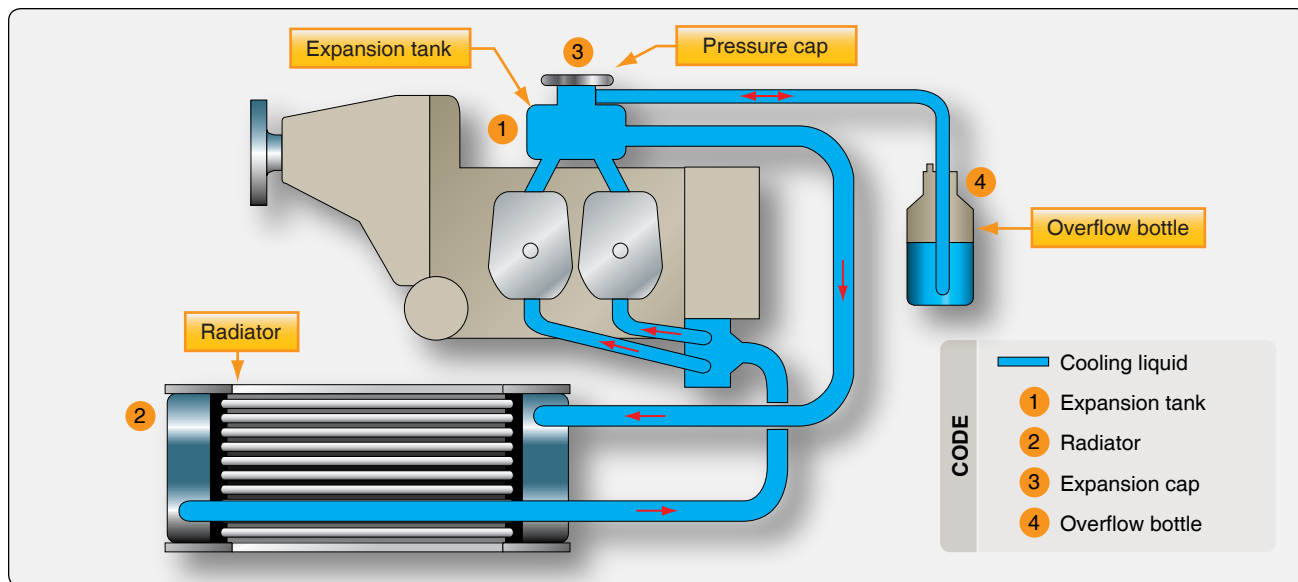
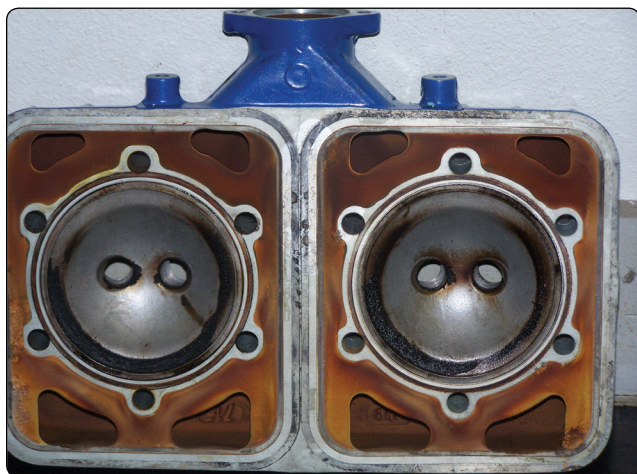

Figure 11-7. Rotax 914 cooling system.
Figure 11-8. Water-cooled heads.
The cooling system of the Rotax 914, shown in *Figure 11-7*, is designed for liquid cooling of the cylinder heads and ram-air cooling of the cylinders. The cooling system of the cylinder heads is a closed circuit with an expansion tank. [Figure 11-8] The coolant flow is forced by a water pump driven from the camshaft, from the radiator, to the cylinder heads. From the top of the cylinder heads, the coolant passes on to the expansion tank (1). Since the standard location of the radiator (2) is below engine level, the expansion tank located on top of the engine allows for coolant expansion.
The expansion tank is closed by a pressure cap (3) (with excess pressure valve and return valve). As the temperature of the coolant rises, the excess pressure valve opens and the coolant flows via a hose at atmospheric pressure to the transparent overflow bottle (4). When cooling down, the coolant is sucked back into the cooling circuit. Coolant temperatures are measured by means of temperature probes installed in the cylinder heads 2 and 3. The readings are taken on measuring the hottest point of cylinder head depending on engine installation. [Figure 11-7]